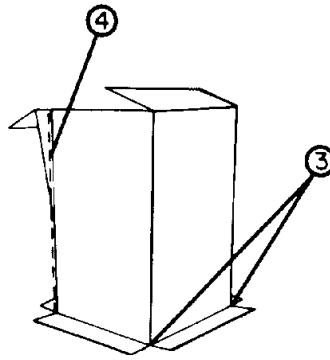

**FIGURE A-6
3. Cut all four corners of the base tray so that the tray lays flat. See Figure A-6.
4. Slit the packing sleeve from top to bottom along one corner. Remove and discard sleeve. See Figure A-6.